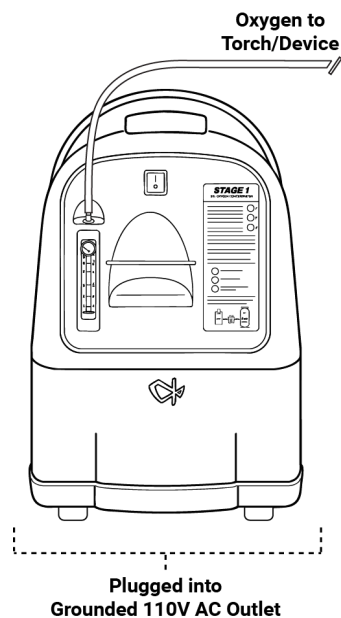

Figure 2.
3. Plumb the Oxygen Output to the Oxygen Input of your torch or desired device. (Figure 2.)
4. Power On & Test – Flip the power switch to the ON position (I). The Stage 1 should immediately power on and begin concentrating oxygen.